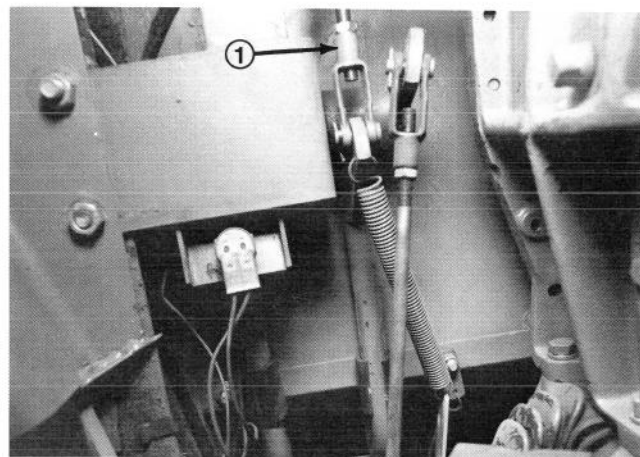

Figure 82
3. Adjust the clevis so a turbulence can be seen in the fluid when the brake pedal is making its return stroke. This will make sure that the piston is making its full return stroke (Fig. 82).